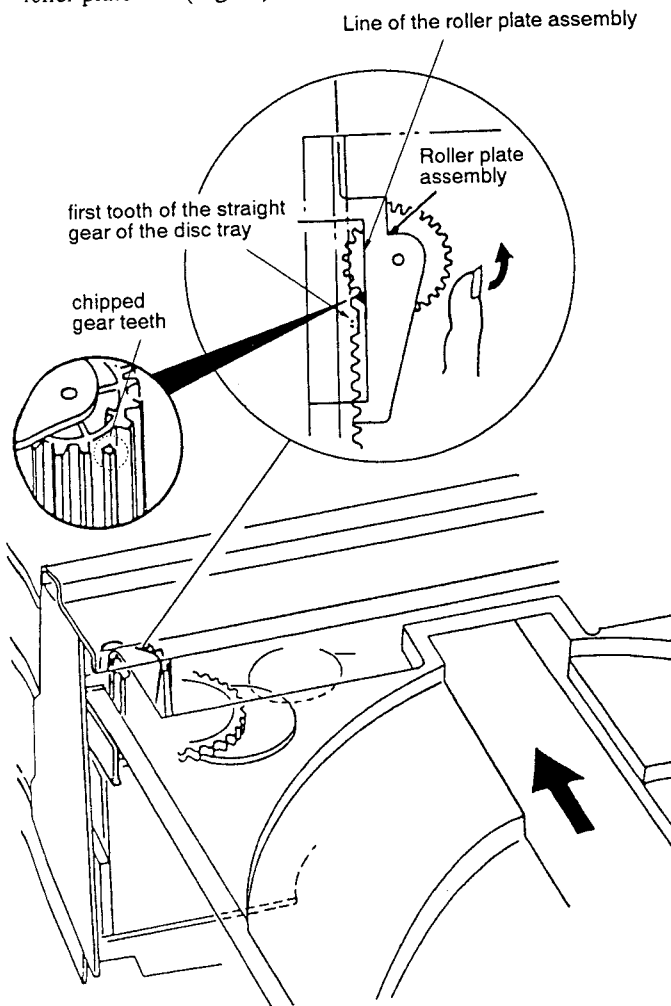

Fig. 19
- ① Adjust the gear positions in the loading mechanism for the disc tray open status, as ㉓ and ㉔ mentioned below.
- ② The top of one of the gear teeth of the roller plate assembly has been chipped off. Finely adjust the position of this chipped tooth by turning the gear counterclockwise so that the tooth comes halfway on the roller plate line. (Fig. 19)